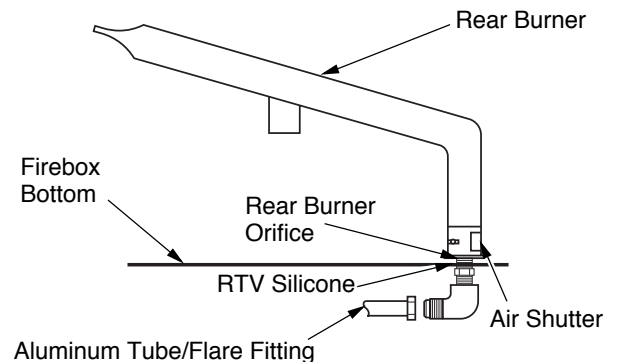
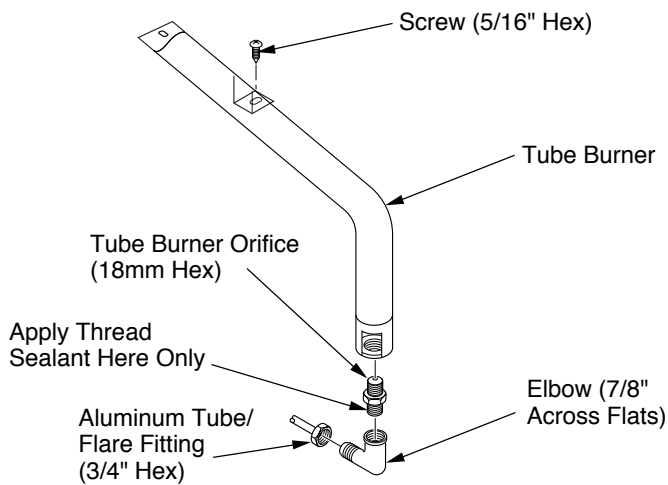

Figure 5 - Removing/Applying RTV Silicone and Locating Air Shutter
Figure 6 - Removing/Replacing Rear Burner Assembly
1. Inside the control compartment under firebox bottom, locate aluminum tube with flare fitting and brass elbow on the right side. Loosen flare fitting and disconnect aluminum tube from elbow fitting. Use a 3/4" open end wrench (see Figure 5).
2. Carefully cut away RTV silicone from the orifice where it passes through the firebox bottom (see Figure 5). Remove elbow fitting with orifice from burner inlet by turning counterclockwise. Use a 7/8" open end wrench (see Figure 6, page 3).
4. Apply a light amount of propane/LP resistant sealant to long threaded end of orifice (see Figure 5, page 2). Thread elbow fitting with orifice into burner inlet and tighten by turning clockwise. Use a 7/8" open end wrench. Make sure flare end of elbow faces left.
5. Locate air shutter at end of tube burner (see Figure 5, page 2). Loosen screw and adjust air shutter to full open (maximum) position. Retighten screw.
1. Apply RTV silicone to orifice where it passes through the firebox bottom (see Figure 5, page 2).